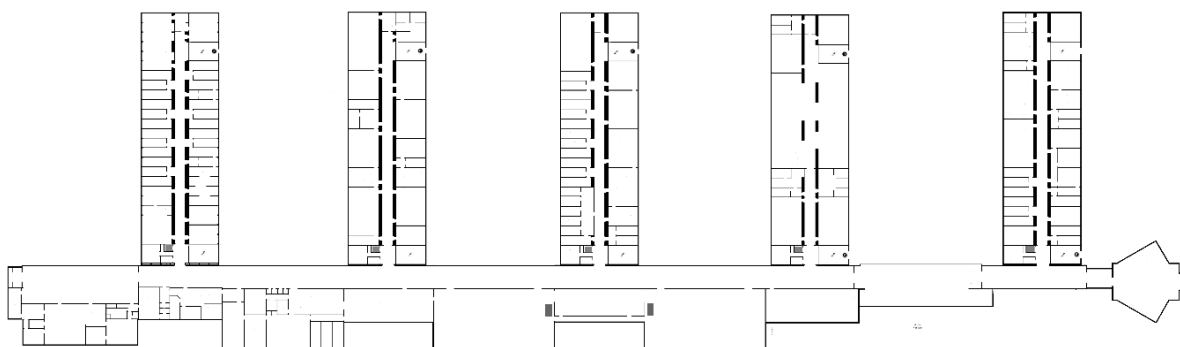

FIGURE 1: THE COMPLETE MAP OF SDU.
- The map "complete_map_project.pgm" use a scale 10pixel:1m and figure 1 shows the complete map.